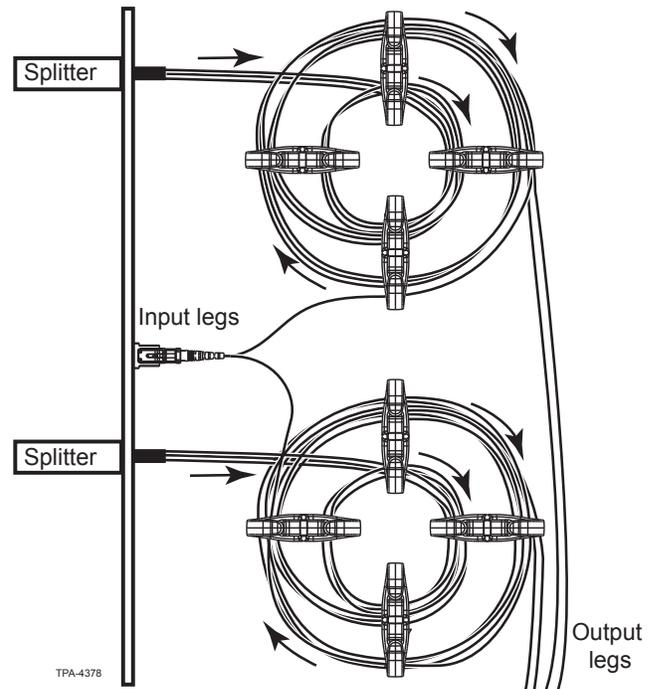

Figure 4
- Step 4:** Route the fiber slack through the segregated routing clips (Figure 4), using the inner section first, then transitioning to the outer section of the clip. Make sure there is adequate slack so the fiber bend radius is maintained across the routing guides.